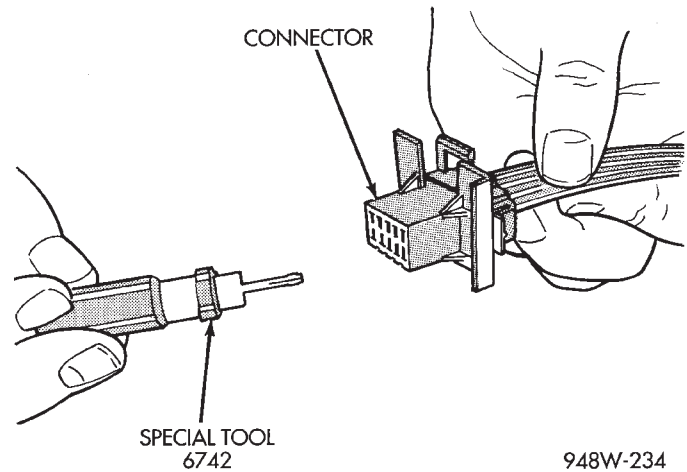

Fig. 11 Molex Connector Repair
- (1) Disconnect battery.
- (2) Disconnect the connector from its mating half/component.
- (3) Insert the terminal releasing special tool 6742 into the terminal end of the connector (Fig. 11).